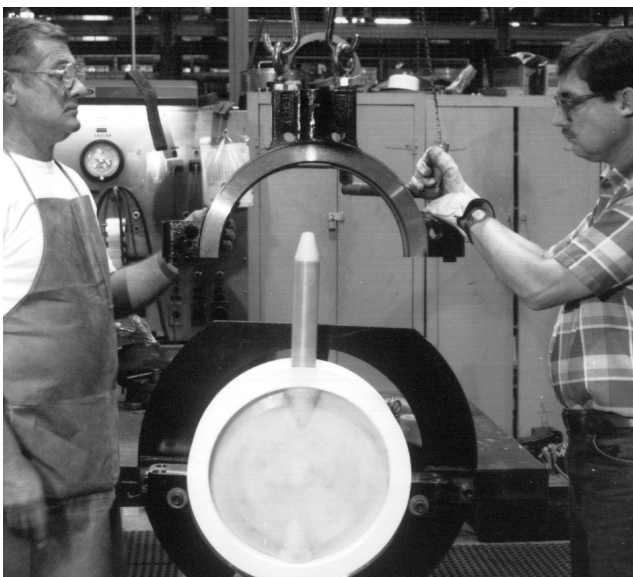

Figure 17
8. **All Sizes:** Remove the liner stem seal die from the long stem of the disc. Slide the disc stem body guide (repair tool item 4) over the long stem making sure that the end of the body guide covers the liner stem seal neck. Orient the top body half so that when put together with the bottom half, the counterbored bolt holes will line up with the body bushings (1C) in the bottom half. The DURCO logo on the top body half should be on the opposite side of the bottom half when bolted together. Carefully lower the top body half over the disc stem and push firmly in place (Figure 17). The gap between the body halves should be approximately 1/4" when properly assembled.